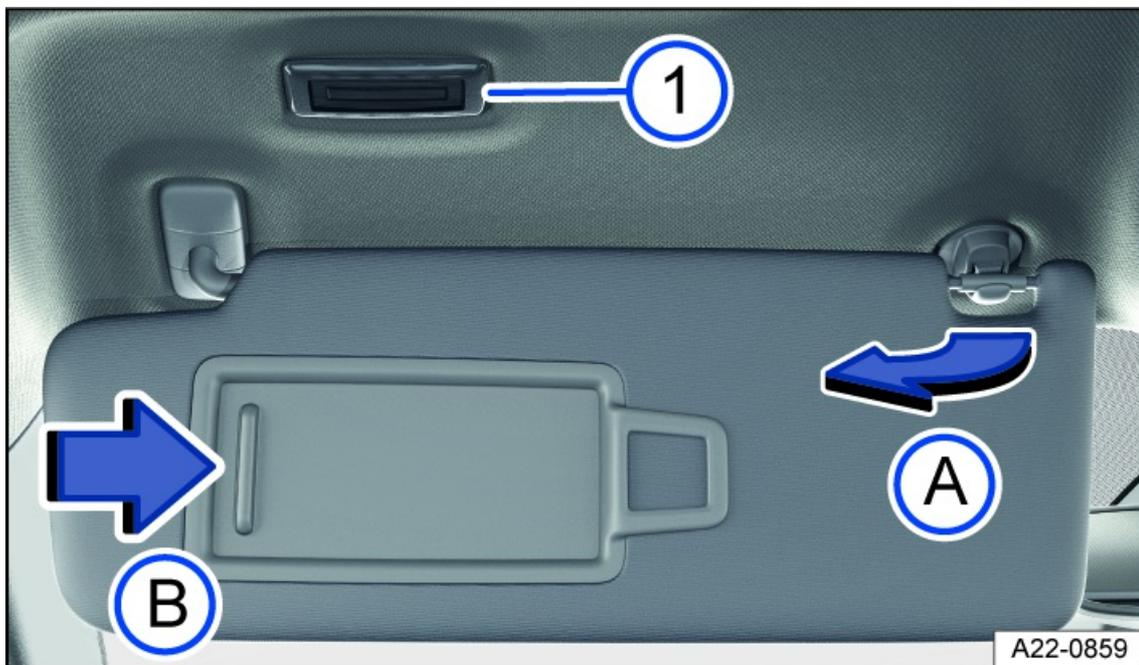

Fig. 86 In the front of the headliner: sun visor.
- Remove from the holder and tilt toward the door *fig. 86*.
When the sun visor is folded down, there is a vanity mirror located behind a cover. The lights *fig. 86* turn on when the cover *fig. 86* slides open.